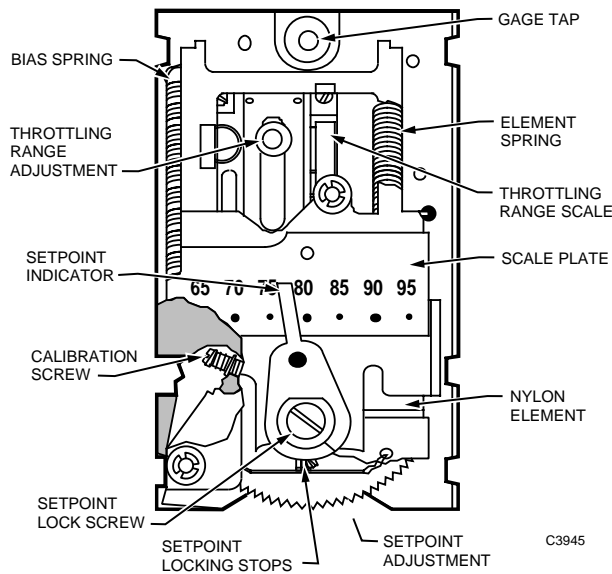

Fig. 49. Humidistat Front View, Cover Off.
Figure 49 shows humidistat components.
To set the minimum and maximum setpoint, refer to Figure 49 and use the following procedure:
3. Insert Gage Port Needle in sensor gage tap (same location as humidistat gage tap shown in Fig. 49).
6. Adjust calibration screw (same location as humidistat calibration screw shown in Fig. 49) until branchline pressure is below that specified in the following table: